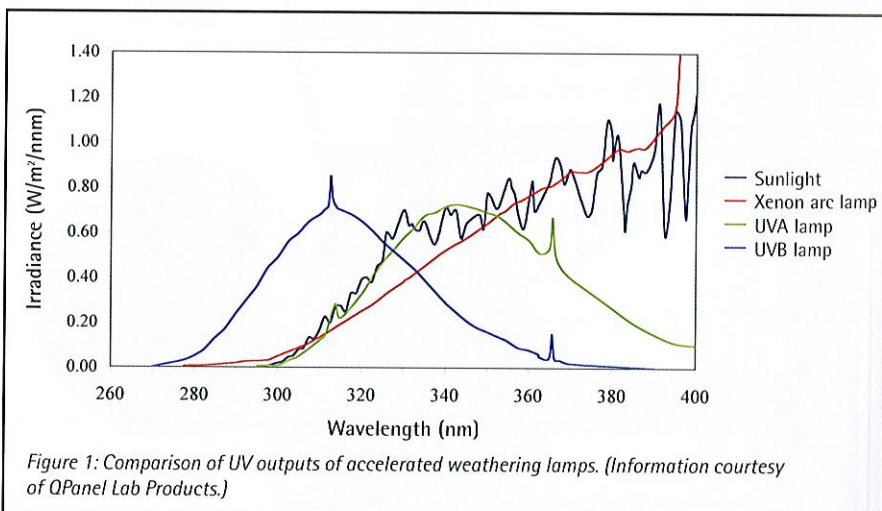

Figure 1: Comparison of UV outputs of accelerated weathering lamps. (Information courtesy of QPanel Lab Products.)
KANEKA MS POLYMER®, silyl terminated polyether(see Figure 1.), hereinafter referred to as MS POLYMER, was developed by Kaneka Corp., Osaka, Japan (ref. 2, 3, 4, and 5), and has been widely used in high performance construction sealants for over 15 years in Japan. MS sealant, with its well acknowledged advantages: good adhesion to various substrates, excellent durability and paintability, is now positioned as a leading elastomeric sealant in Japan.
Accelerated UV techniques have been extremely useful in rapidly assessing the durability of materials in the presence of UV radiation, but there is some inconsistency between results from the different techniques available (UVA lamps, UVB lamps and xenon arc lamps) and natural in-service performance in natural light (see Figure 1). The output of the UVA lamps is a good simulation of summer sunlight up to a point, but this drops off in intensity at higher wavelengths, a region where some polymeric materials are